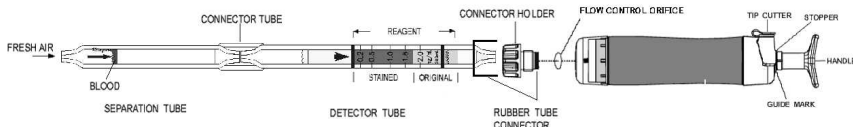

Fig.3
- **MAKE SURE TO ATTACH THE FLOW CONTROL ORIFICE TO THE ASPIRATING PUMP PRIOR TO MEASUREMENT AS SHOWN IN Fig.3.**
- ① Break both ends of the detector tube and separation tube.
- ② Connect the detector tube and separation tube with the connector tube as shown in Fig.3.
- ③ Insert the detector tube into the aspirating pump securely. (An arrow mark should point to the aspirating pump.)
- ④ Take 0.1mL of blood into a syringe and insert it into the separation tube.
- ⑤ Align the guide marks on the handle and the stopper of the aspirating pump.
- ⑥ Pull the pump handle at a full stroke locked position and wait for 2 minutes.
- ⑦ Push back the handle without removing the detector tube from the rubber tube connector. Then repeat the step ⑤~⑥ twice more.
- ⑧ Remove the detector tube from the rubber tube connector and read the scale at the maximum point of the stained layer.
- ⑨ The scale is calibrated at 20 °C(68 °F). Readings obtained in other circumstances should be corrected by using “5. TEMPERATURE CORRECTION TABLE”.